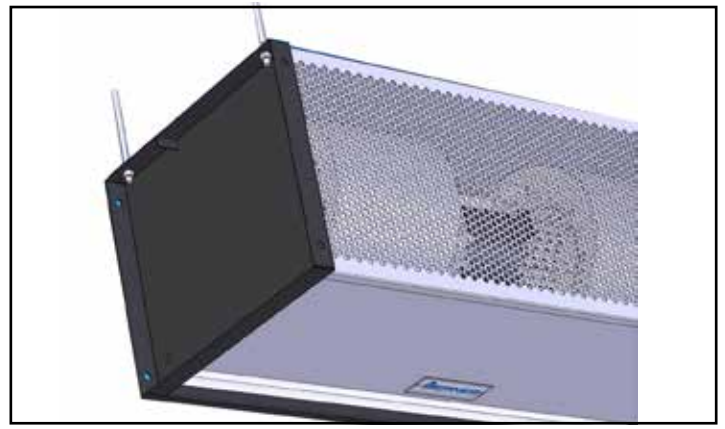
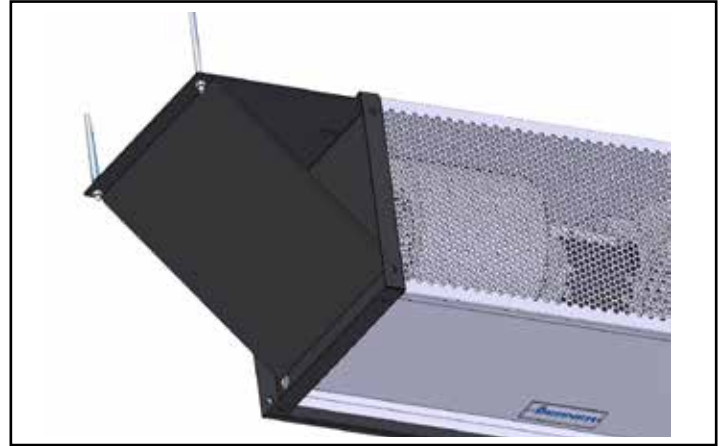

Figure 5
Figure 6 - With Extension Brackets
- B. The IDC12/IDC14 Series end plates are equipped with $\frac{1}{2}$ " holes for suspended mounting. The unit may be suspended using a minimum $\frac{3}{8}$ " suspension rod **See Figure 5**, or using $\frac{3}{8}$ " suspension rods and extension brackets (available from Berner). **See Figure 6.**